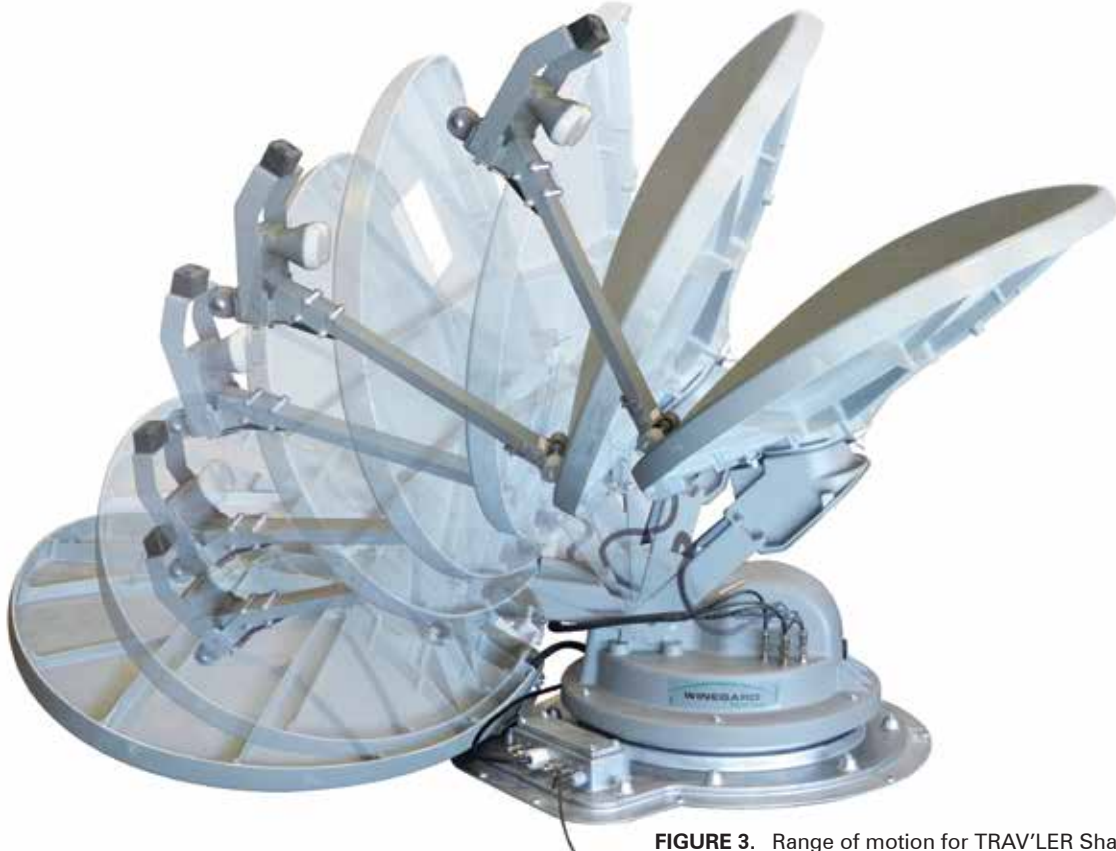

FIGURE 3. Range of motion for TRAV'LER Shaw Direct antenna
**Also, check that there are no obstructions (such as tree limbs) above the antenna that will prevent it from raising.** At its highest point, the antenna will extend to 39" above the roof to which it is mounted (see fig. 3).